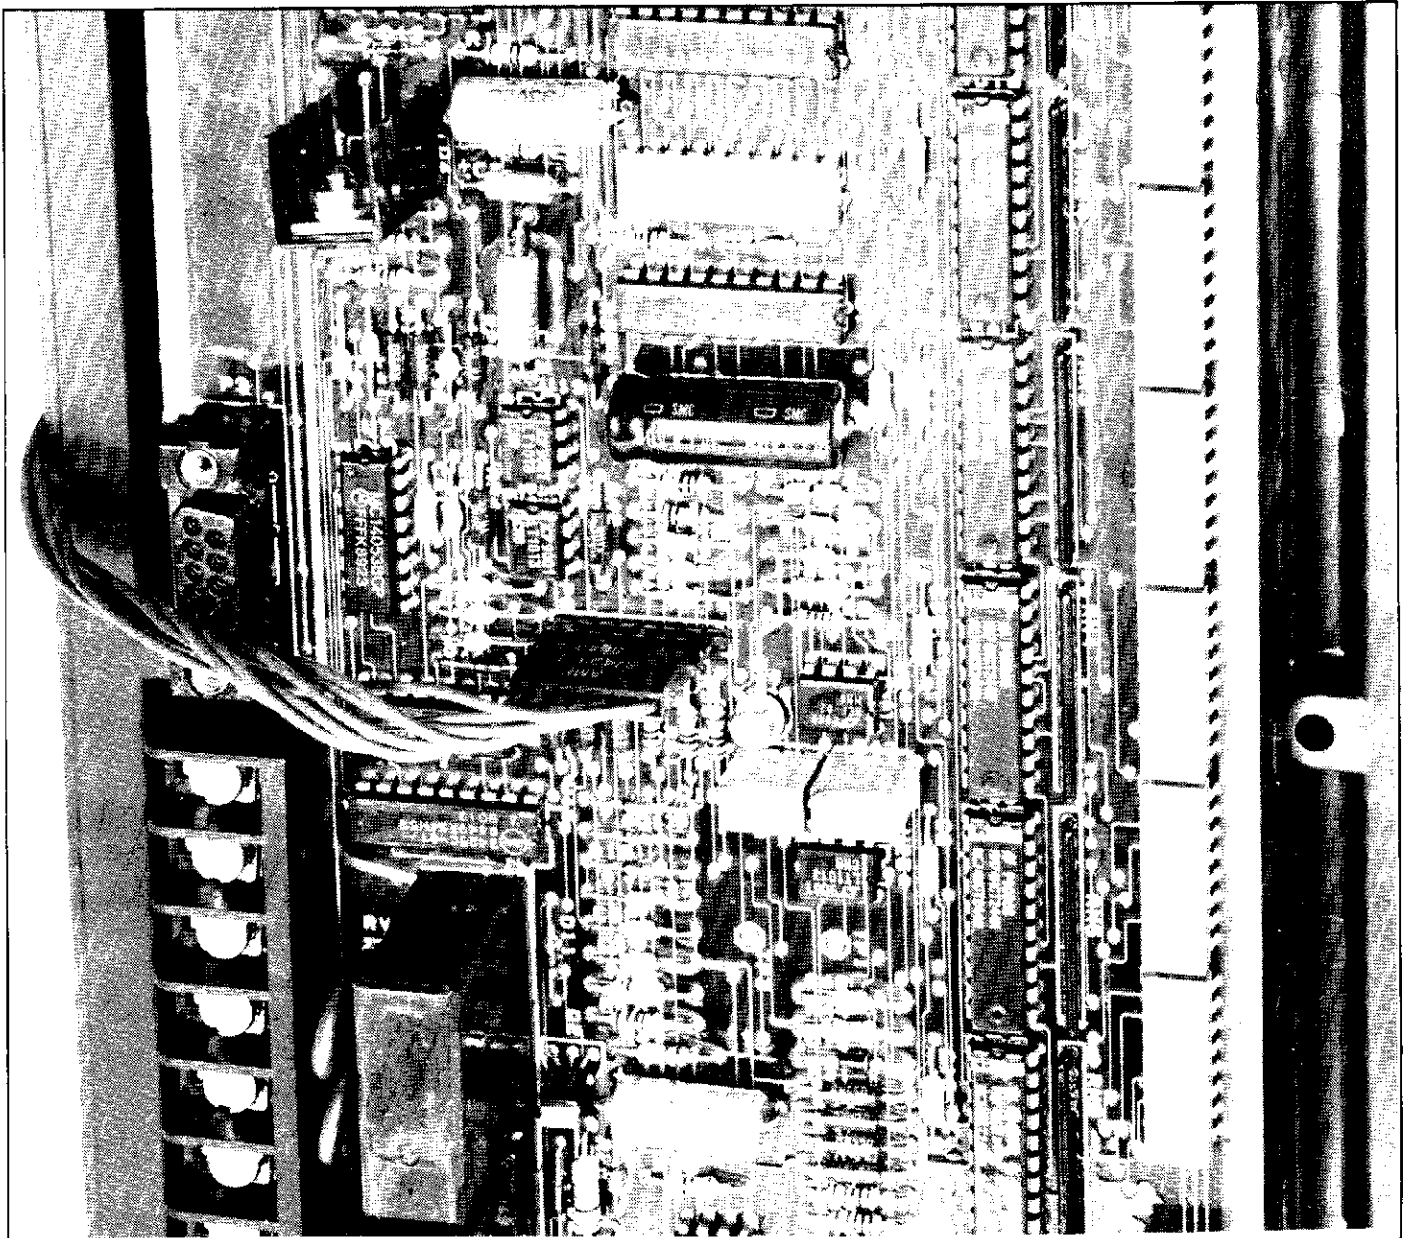

Fig. 2 Connection of Jumper P6 to Rear Board
12. Gently remove rear cover from unit. Note that the seven-pin connector must be removed from the eight-pin jumper P6 as the rear cover is being removed (See Figure 2).
28. Connect the seven-pin connector from the rear cover assembly to the eight-pin jumper P6 on the circuit board. Make sure that position 1 of the connector is connected to the pin nearest the pin 1 mark (notch) on the circuit board. Note that pin 8, the last pin on the right side of the jumper, is left exposed (See Figure 2).